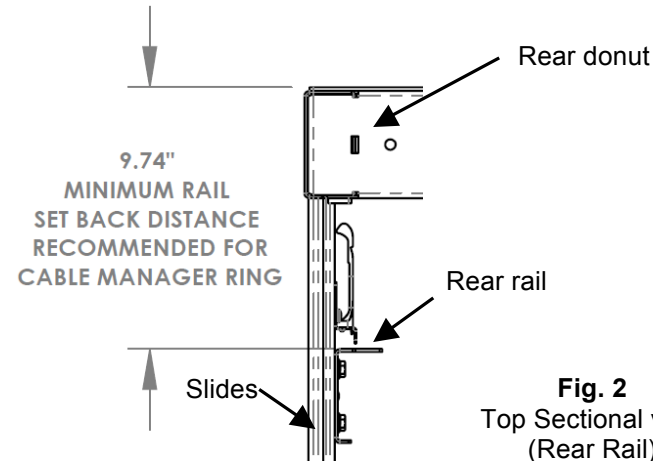

Fig. 2
2. The rear equipment mounting rail must be set back a minimum distance for use with a cable manager ring (Fig. 2).